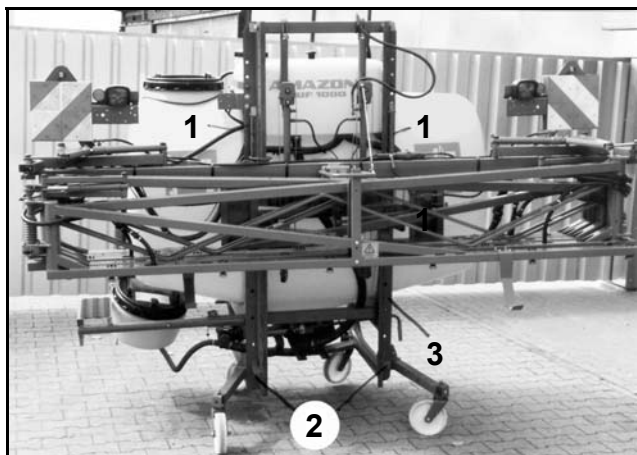

Fig. 47
- Push up the two square profiles (Fig. 47/1) by hand as far as possible and lock in this position by raising the stop elements (Fig. 47/2) on the boom carrying bracket (Fig. 47/3).
- Lower the stop elements (Fig. 47/2) on the boom carrying frame (Fig. 47/3).